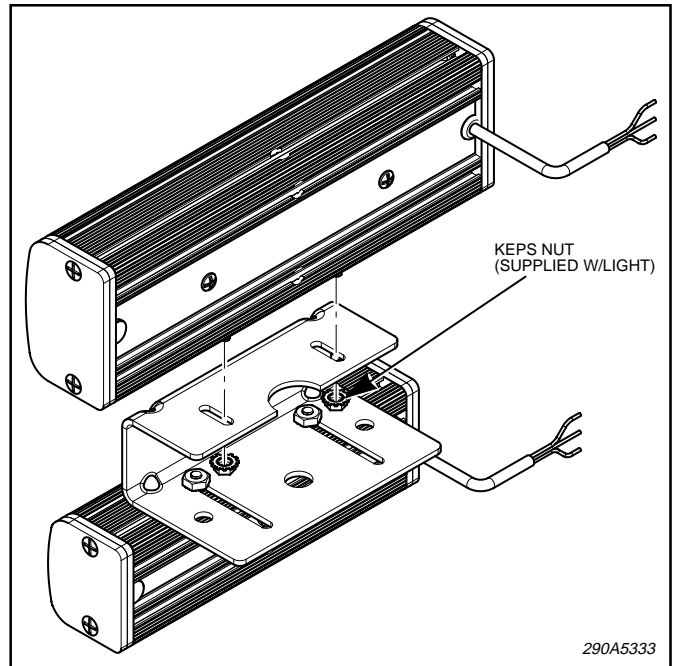

Figure 3.
3. See figure 3. Attach the light head(s) to the bracket using the hardware supplied with the lights.